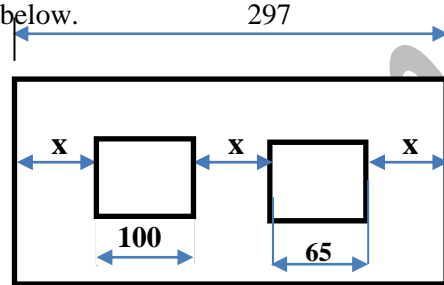

Figure 1
10. Determine the value x of the space on the drawing in Figure 1 below.